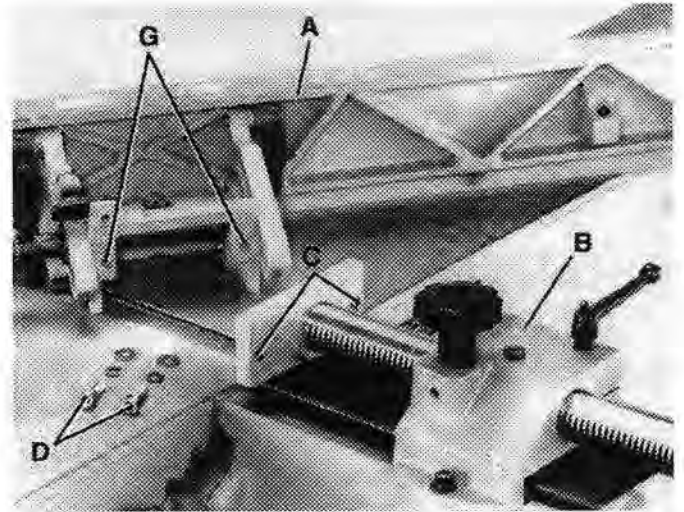

FIGURE 11
1. Align two threaded holes (G) Fig. 11, in fence (A) with two holes (C) in fence carriage (B) and fasten fence to carriage assembly with two socket hex. screws, lock washers, and flat washers (D).